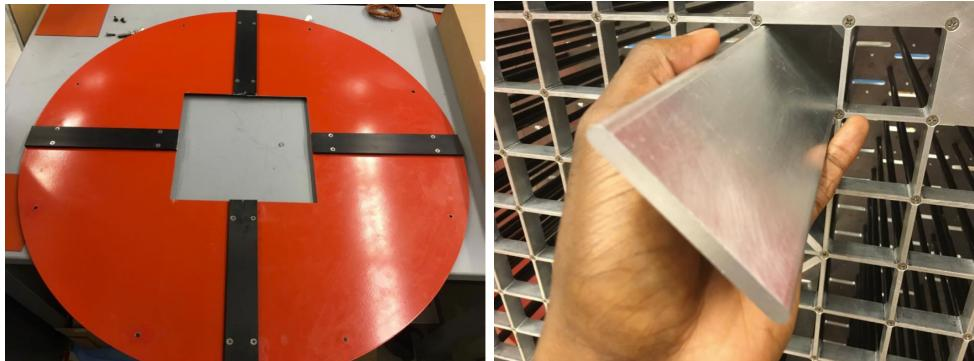
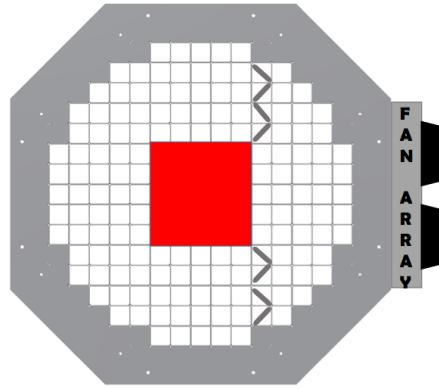

Figure 11: Front baffle shown on the left. Inner camera baffle shown on the right being inserted into one of the module slots from the front of the camera.
Figure 12: Air baffle orientation.
Since the camera isn't fully populated, we have manufactured baffles to force the air through the active area. Figure 11 shows the two types of baffles made. Figure 12 shows the optimal baffle orientation. There is a front baffle that fits over the front of the camera areas that isn't populated and inner lattice baffles that fit into some of the empty module slots.
- Inner lattice camera baffles: The inner camera baffles are made with two holes in the back end. This was done so that they could be inserted in the lattice module slots in either diagonal orientation. The preferred orientation is shown in Fig. 12. To install them: